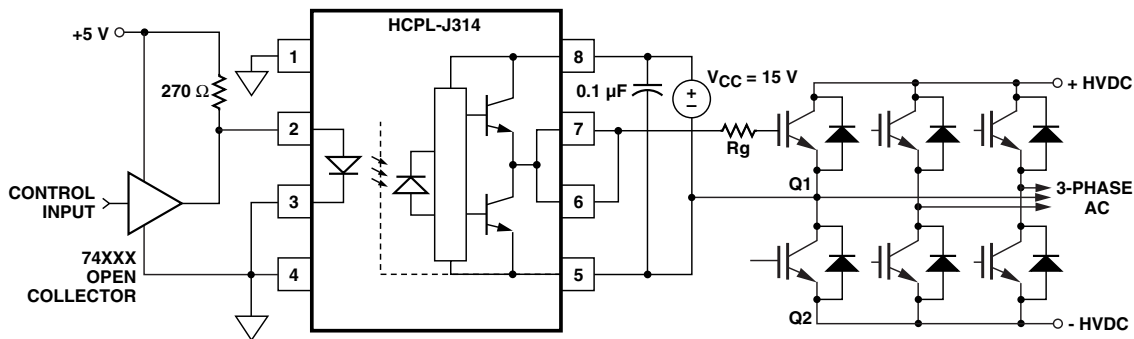
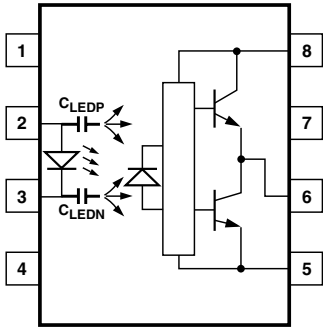
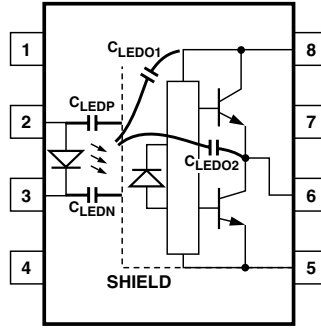

Figure 19. Recommended LED Drive and Application Circuit for HCPL-J314.
Figure 21. Optocoupler Input to Output Capacitance Model for Unshielded Optocouplers.
Figure 22. Optocoupler Input to Output Capacitance Model for Shielded Optocouplers.
eliminate the need for negative IGBT gate drive in many applications as shown in Figure 19. Care should be taken with such a PC board design to avoid routing the IGBT collector or emitter traces close to the HCPL-J314 input as this can result in unwanted coupling of transient signals into the input of HCPL-J314 and degrade performance. (If the IGBT
Step 1: Calculate R_g minimum from the I_{OL} peak specification. The IGBT and R_g in Figure 19 can be analyzed as a simple RC circuit with a voltage supplied by the HCPL-J314.
where $K_{ICC} \cdot Qg \cdot f$ is the increase in I_{CC} due to switching and K_{ICC} is a constant of 0.001 mA/(nC*kHz). For the circuit in Figure 19 with I_F (worst case) = 10 mA, R_g = 32 Ω, Max Duty Cycle = 80%, Q_g = 100 nC, f = 20 kHz and T_{AMAX} = 85°C:
Without a detector shield, the dominant cause of optocoupler CMR failure is capacitive coupling from the input side of the optocoupler, through the package, to the detector IC as shown in Figure 21. The HCPL-J314 improves CMR performance by using a detector IC with an optically transparent Faraday shield, which diverts the capacitively coupled current away from the sensitive IC circuitry. However, this shield does not eliminate the capacitive coupling between the LED and optocoupler pins 5-8 as shown in Figure 22. This capacitive coupling causes perturbations in the LED current during common mode transients and becomes the major source of CMR failures for a shielded optocoupler. The main design objective of a high CMR LED drive circuit becomes keeping the LED in the proper state (on or off) during common mode transients. For example, the recommended application circuit (Figure 19), can achieve 10 kV/μs CMR while minimizing component complexity.
supplied by the LED, and it is not recommended for applications requiring ultra high CMR₁ performance. The alternative drive circuit which like the recommended application circuit (Figure 19), does achieve ultra high CMR performance by shunting the LED in the off state.